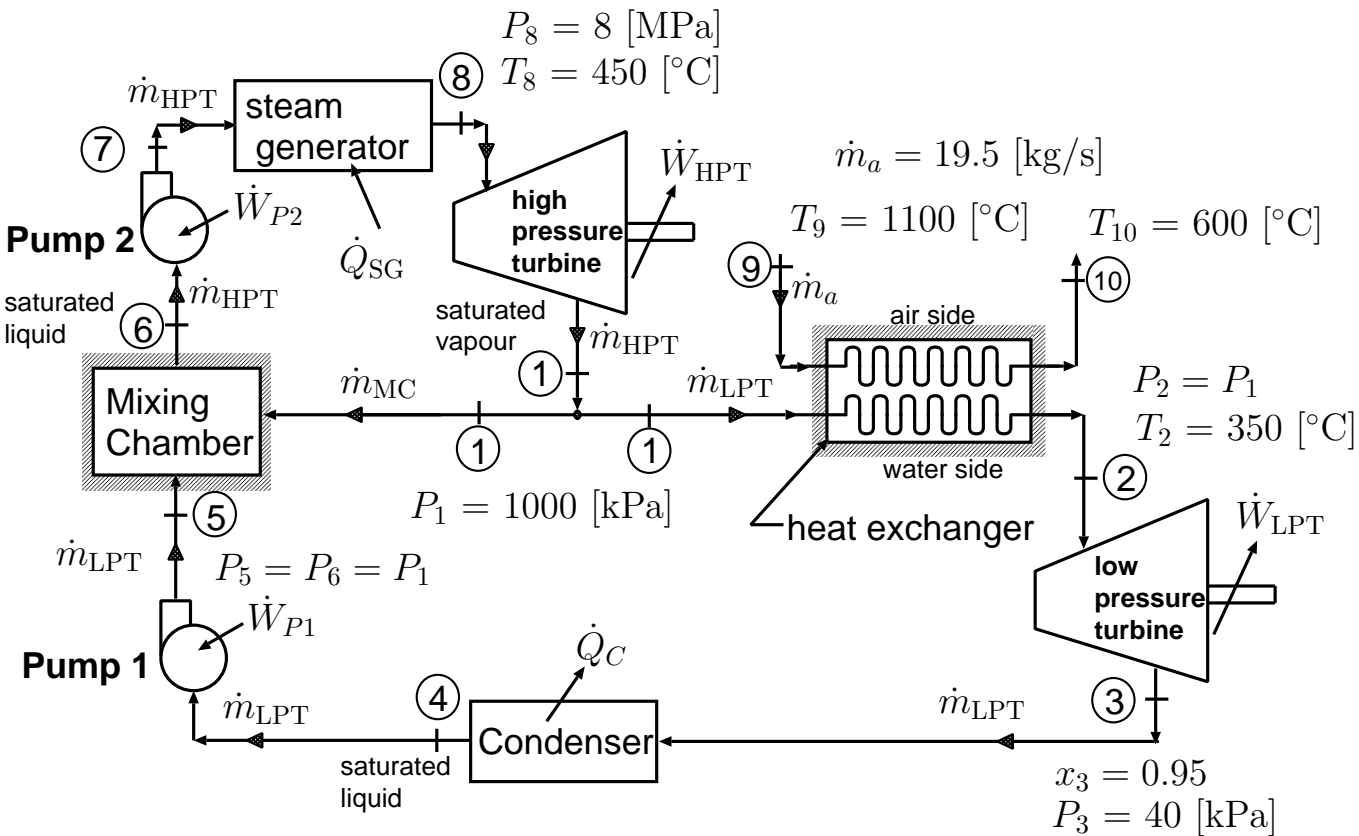

Figure 2: Figure for problem 2
2. Figure 2 shows a schematic of a power plant that has two steam turbines. The water (the working fluid for the plant) leaves the high pressure turbine (HPT) as saturated vapour at 1000 [kPa]. Part of this flow is diverted to an insulated heat exchanger, which uses a hot air stream to create superheated steam that enters the low pressure turbine (LPT). The air mass flow rate is  $\dot{m}_a = 19.5$  [kg/s] and the air temperature drops from 1100 [°C] to 600 [°C] as it goes through one side of the heat exchanger. The remaining portion of the exit flow from the high pressure turbine goes to a mixing chamber. This flow is mixed with the stream coming from the low pressure turbine branch after it has gone through the low pressure turbine, the condenser, and Pump 1. The flow leaves the mixing chamber as saturated liquid and then enters Pump 2. The flow leaves the mixing chamber as saturated liquid and then enters Pump 2. After leaving Pump 2 at a pressure of 8 [MPa], the water enters the steam generator, where it exits at 8 [MPa] and 450 [°C] before flowing into the high pressure turbine. Further details of the plant operating conditions are shown in Figure 2. The turbines and pumps are insulated (*i.e.*, adiabatic). Neglect changes in potential and kinetic energies.